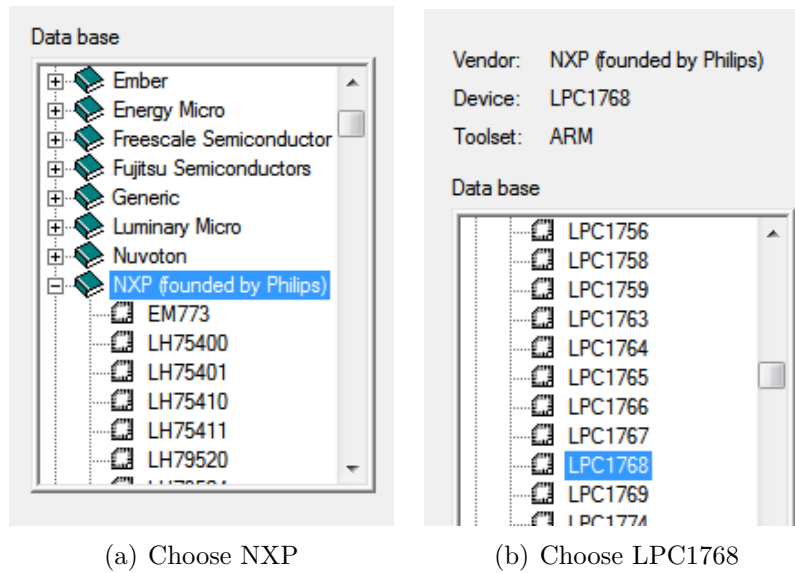

Figure 5.2: Keil IDE: Choose MCU
- Choose NXP(Founded by Philips) \rightarrow LPC1768 (See Figure 5.2\(a\) and Figure 5.2\(b\))